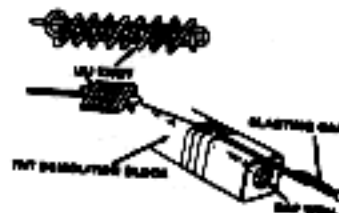

Figure 15-11C. Alternate method #3.
(3) Alternate method number 3 is shown in figure 15-11C. Form a Ull knot with a minimum of eight wraps using a 20 to 24-inch length of detonating cord. This knot equals the power output of three to four blasting caps. Tape the knot tightly to the demolition charge to be detonated.